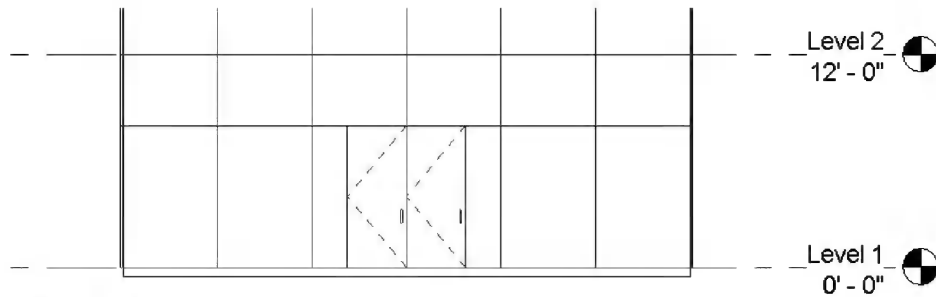

FIGURE 8-5.6 Curtain grid with doors added
11. Repeat the previous two steps for the other 3'-4" wide cell (Figure 8-5.6).